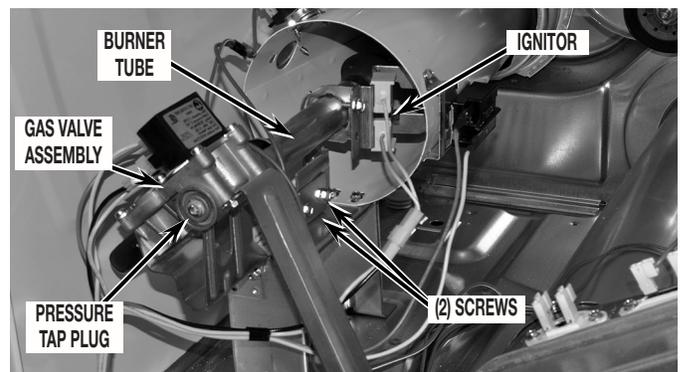

FIGURE 1B
8. Disconnect ignitor wires from harness then remove the burner tube by removing the two (2) screws securing it to the burner base. See Figure 1B; then continue to "Determining Gas Valve Style" – "Changing the Orifice."